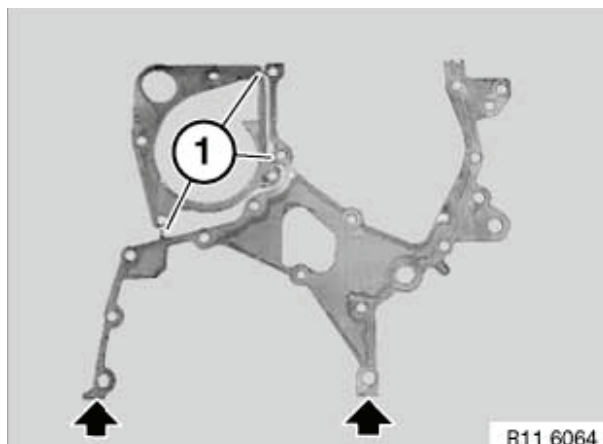

Figure 5-87
3. If coolant pump was not removed, cut gasket at three locations (**Figure 5-87, (1)**). Install gasket and apply a thin coat of Three Bond 1207F (Yanmar part No. 977770-1207F) sealing agent to gasket at ends (arrow) on both sides.